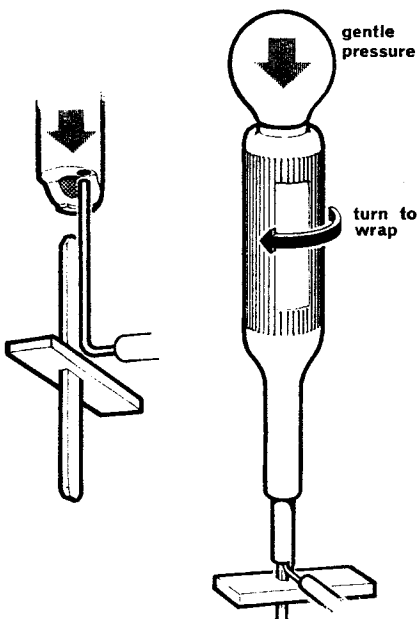

Fig. 24. Single wrap
- (1) Strip the lead insulation (if any) for about one inch.
- (2) Lie the lead alongside the terminal post as shown in Fig. 24. A component lead should be bent to allow the component to lie flat against the base board.
- (3) Fit the tool over the terminal post and the lead.
- (4) Apply gentle pressure and turn the tool clockwise until all the lead is wound round the post.
- (5) Check that there are at least six properly wound turns forming a satisfactory joint.